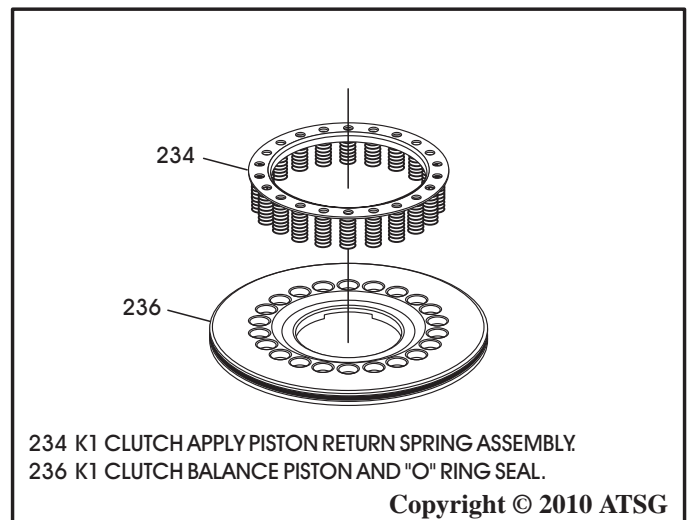

Figure 125
6. Turn the balance piston over and install the return spring assembly into the holes of the balance piston, as shown in Figure 125.